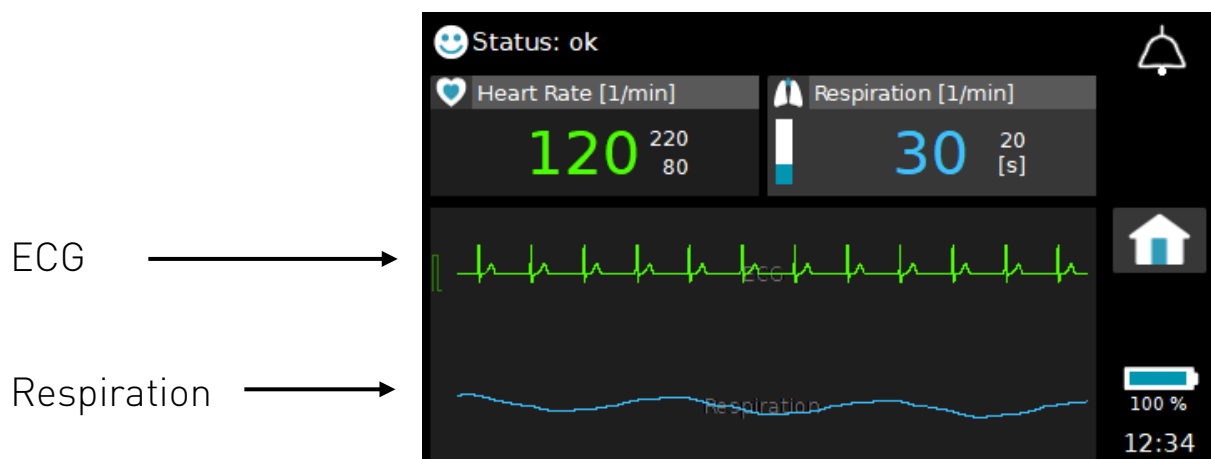

Fig. 33 View 3 Screen Content
**View 3** content, as shown in Fig. 33, is similar to **View 2**. The main differences are that the current values for heart rate and respiration rate together with their corresponding alarm limits are displayed along the top of the screen and the three corresponding waveforms are displayed across the whole width of the screen.